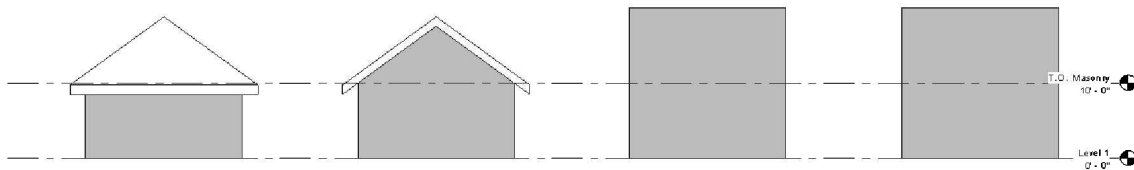

FIGURE 6-1.6 South elevation – gable roof
24. Switch to the **South** elevation view (Figure 6-1.6).